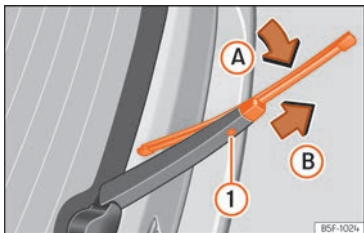

Fig. 81 Changing the rear wiper blade
- Pull the wiper blade out of its mounting on the wiper arm >>> Fig. 81 (arrow A).
- Hold down the release button >>> Fig. 81 ❶ while gently pulling the blade in the direction of arrow B. You might have to apply a lot of effort.
- Insert a new blade of the **same length and type** in the wiper arm in the opposite direction to the arrow >>> Fig. 81 B and hook into place. This feature is operational when the knob is in position (arrow A).